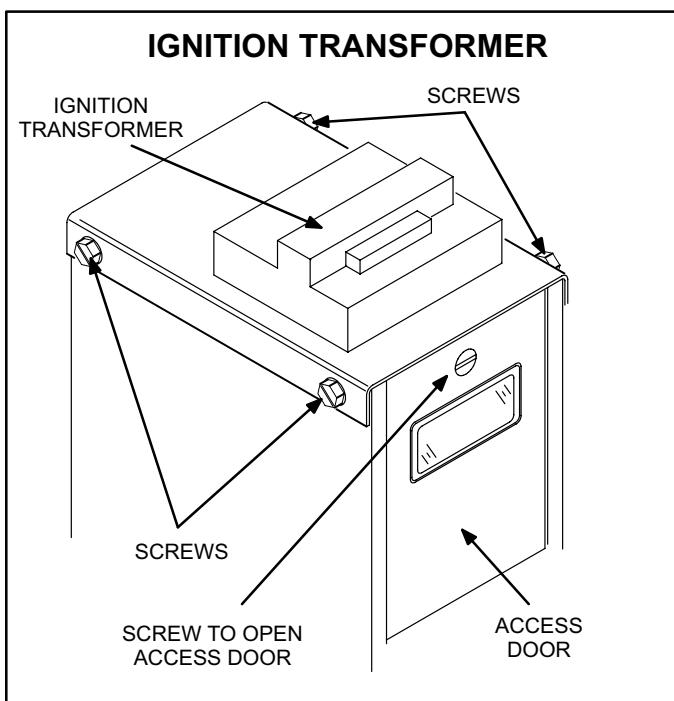

FIGURE 21
- 1 - Remove all four screws located on the side of the ignition transformer. See figure 21.
- 1 - Loosen the screw to the back access door until door opens. See figures 21 and 22.